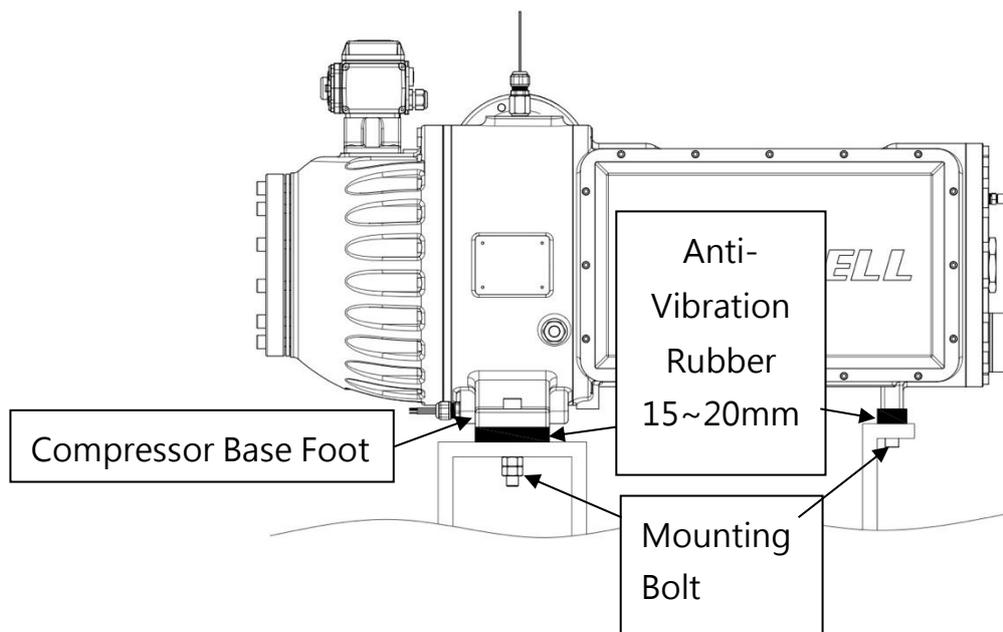

Figure 7-2 Compressor Base Installation (Without Foot Plate)
- The compressor mounting base must be installed level and equipped with anti-vibration pads. As shown in Figures 7-2 and 7-3, the anti-vibration pads should be compressed to a slight degree during installation to ensure firm and stable support.